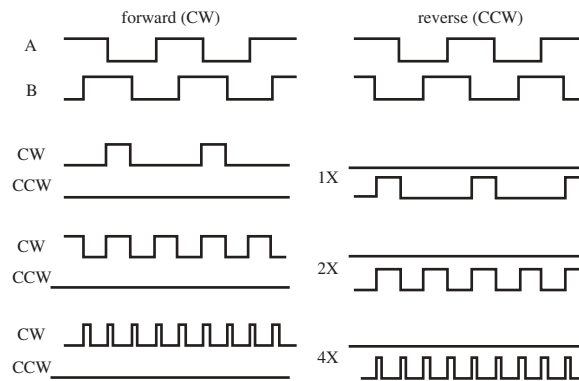

Figure 9.15 Quadrature direction sensing and resolution enhancement.
The quadrature signals A and B can be decoded to yield angular displacement and the direction of rotation as shown in Figure 9.15. Pulses appear on one of two output lines (CW and CCW) corresponding either to clockwise (CW) rotation or counterclockwise (CCW) rotation. Decoding transitions of A and B using sequential logic circuits can provide three different resolutions: 1X, 2X, and 4X. The 1X resolution provides an output transition at each negative edge of signal A or B, resulting in a single pulse for each quadrature cycle. The 2X resolution provides an output transition at every negative or positive edge of signal A or B, resulting in two times the number of output pulses. The 4X resolution provides an output pulse at every positive and negative edge of signal A or B, resulting in four times the number of output pulses. The direction of rotation is determined by the level of one quadrature signal during an edge transition of the second quadrature signal. For example, in the 1X mode, $A = \downarrow$ with $B = 1$ implies clockwise rotation, and $B = \downarrow$ with $A = 1$ implies counterclockwise rotation. If we only had one signal instead of both A and B, it would be impossible to determine the direction of rotation. Furthermore, shaft jitter around an edge transition in the single signal would result in erroneous pulses (see Class Discussion Item 9.6).